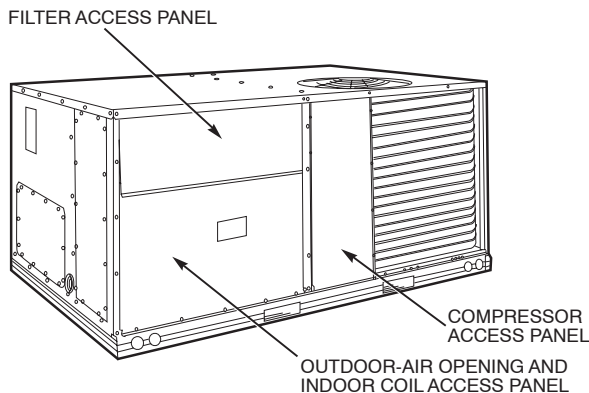

Fig. 29 – Typical Access Panel Locations
1. To remove the existing unit filter access panel, raise the panel and swing the bottom outward. The panel is now disengaged from the track and can be removed. (See Fig. 29.)